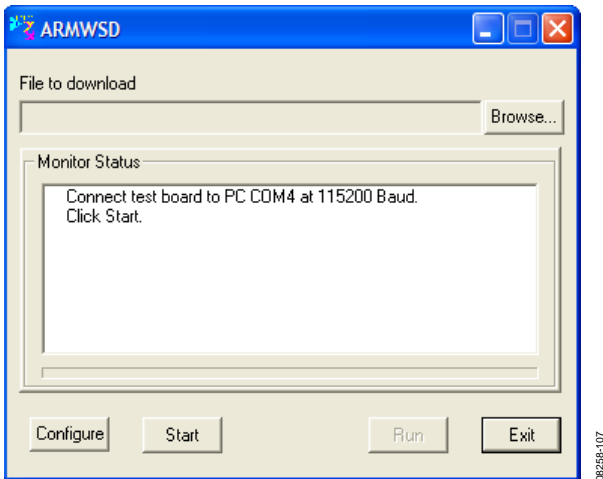
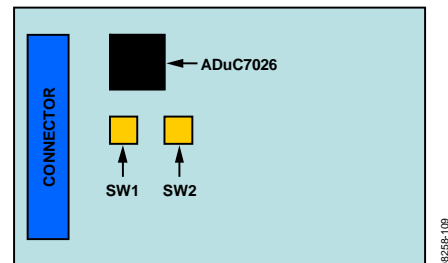

Figure 7. ISEB ARMWSD Firmware Downloader
Figure 9. ISEB Switch Locations for Flashing the Microcontroller
2. Run the **ARMWSD.exe** program located in the **/Drivers/FW/** folder, which displays information about the downloader, as shown in Figure 7.
1. Click **Start**, as shown in Figure 7, to initiate the flashing process. After clicking **Start**, the two buttons on the ISEB shown in Figure 9 must be pressed, in a specific order, to flash the firmware.
The download then begins and is automatically verified by the downloader. If the downloading process fails, which will be indicated in the **Monitor Status** box (see Figure 7), attempt the download again by clicking **Start** and then the appropriate switch combination. It may take a few attempts to reprogram the board successfully.
After the download is completed successfully, click **Run**, as shown in Figure 7, to reset the ISEB and to begin running the new firmware. When this step is complete, the board is updated correctly.
When the system is set up and configured, press **SW2**, which is shown in Figure 9, to reset the ISEB and have it detect the currently connected satellite. This must be done when the satellite connected to the ISEB is replaced by a satellite of a different part only; replacing the satellite with a satellite for the same part, that is, an EVAL-ADXL346Z-S with another EVAL-ADXL346Z-S, does not require **SW2** to be pressed.